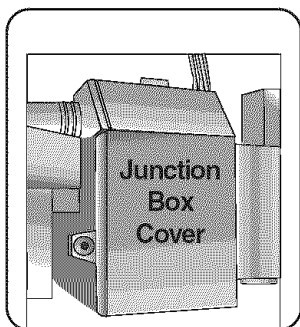

Figure 13
- 1 Remove junction box cover (see **Figure 13**) by lifting the junction box cover up and off.